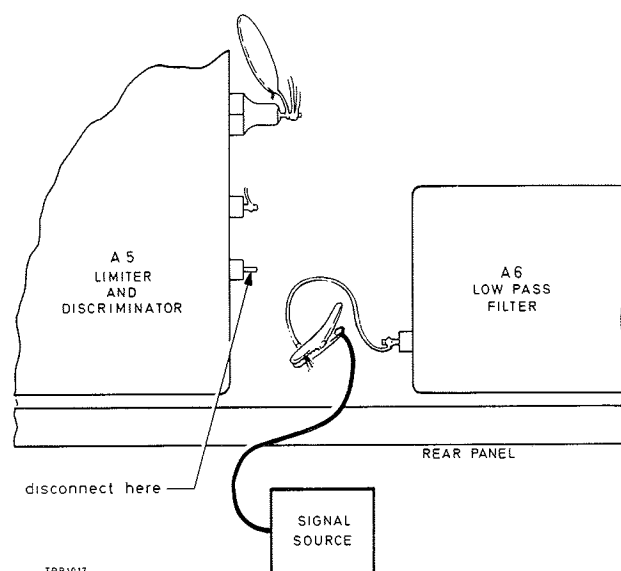

Fig. 5.3 Location of discriminator output lead
- (1) Connect the 0.014 μ F capacitor, r. m. s. voltmeter and oscilloscope across the OUTPUT terminals.
- (2) Turn the oscillator RANGE switch to EXT.
- (3) Connect the 1.5 Mc/s crystal oscillator to the R. F. IN socket and turn the MAX MOD FREQ switch to 15 kc/s.
- (4) Turn the Function switch to SET FREQ-F. M. and check that the TF 2300 meter deflects to the SET mark.
- (5) Turn the Function switch to TUNE and adjust the LEVEL control to bring the TF 2300 meter reading to the top end of the black R. F. LEVEL arc.
- (6) Turn the Function switch to SET CAL and adjust the r. m. s. voltmeter range switch to give a convenient reference level. Note this reference level.
- (7) Turn the Function switch to DEV+ and the RANGE switch to 5 kc/s. Turn down the external voltmeter range switch and check that the reading is at least 52 dB below the reference level, i. e. -72 dB relative to the level of 50 kc/s deviation.
- (8) If not, remove the yellow lead from the discriminator output, A5 pin 4 (see Fig. 5.3) and check that the noise level drops to -58 dB. A high noise figure can be improved by selection of transistors VT3, VT4, VT5 and VT6 in the discriminator (A5) and/or by selecting a new value for A5R13.